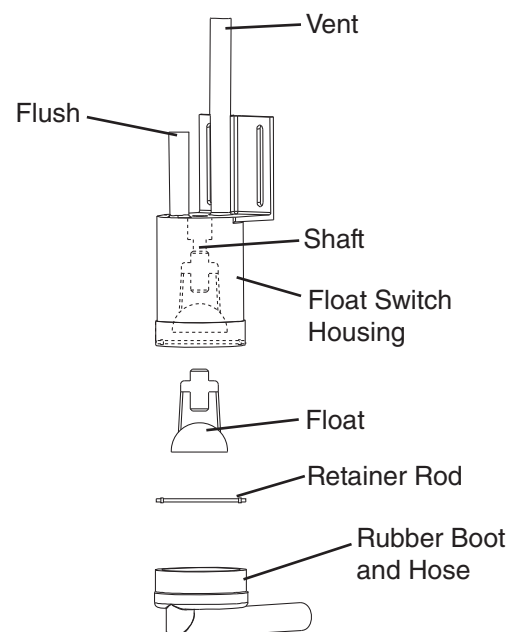

Fig. 5
- 6) Disconnect the vent tube and the flush tube from the top of the float switch, then remove the float switch assembly from the mounting bracket and remove the rubber boot from the bottom of the float switch assembly. See Fig. 5.